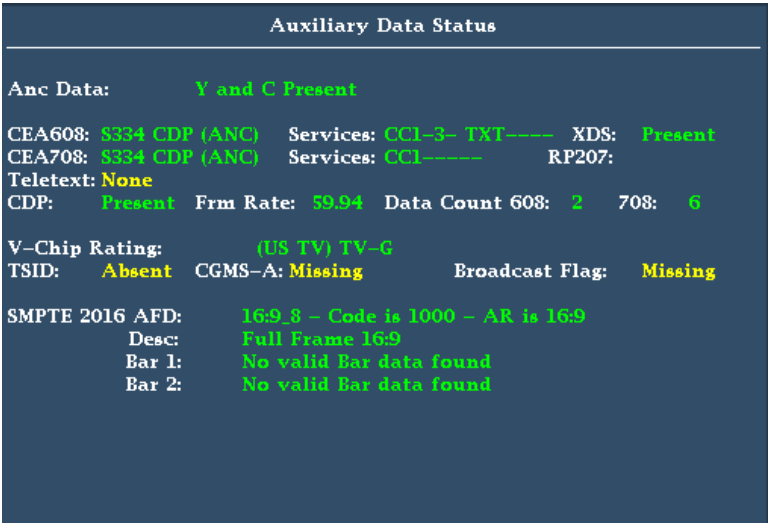

Figure 59: Auxiliary Data Status display
4. Select **Aux Data Status**. The Auxiliary Data Status display shows the status of the closed caption data. (See Figure 59.)
View the graticules in the Picture display. AFD information can viewed in the Auxiliary Data Status display. (See Figure 59 on page 129.)